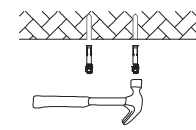

Figure 2-2
2. Use a hammer to put the expansion screws into the holes (Figure 2-2).